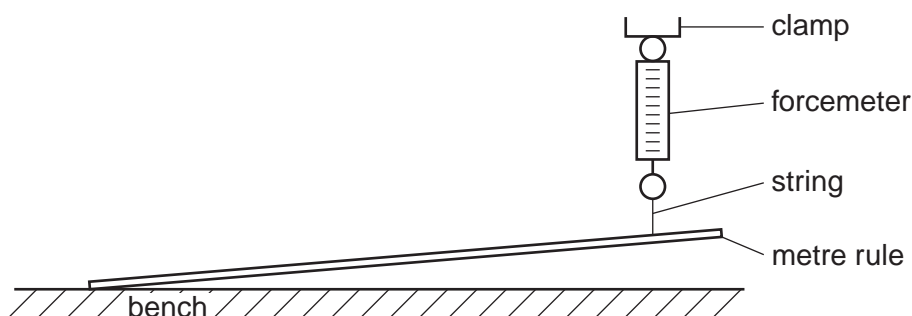

Fig. 1.1
1. The apparatus is to be set up as shown in Fig. 1.1. Zero the forcemeter before attaching it to the rule. One end of the forcemeter should be attached to the clamp. The other end of the forcemeter is to be attached with string to the metre rule at the 90.0 cm mark. The string must not slip. The forcemeter will show a non-zero reading.